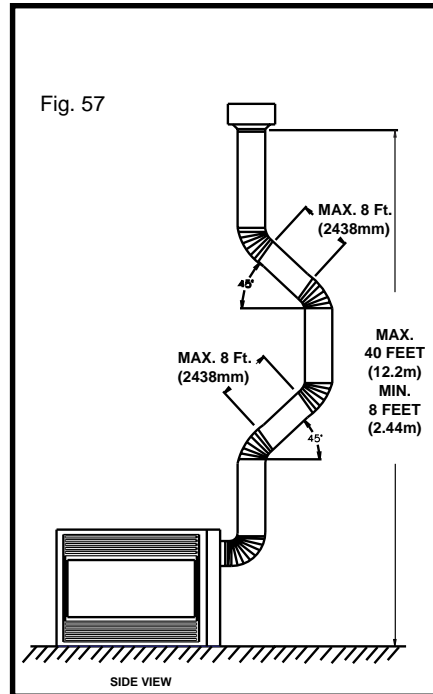

Fig. 57
- d) Two sets of 45 degree elbow offsets within these vertical installations. From 0 to a maximum of 8 ft. a vent pipe can be used between elbows. (Fig. 57)